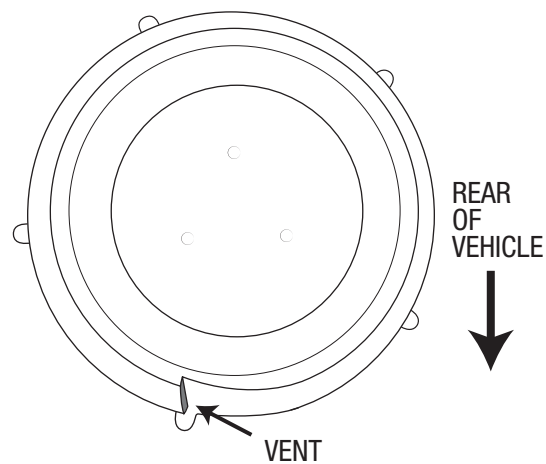

Figure 23
2. Install the High Dust Filtration System. This must be installed with the vent to the rear of the vehicle (Fig. 23).